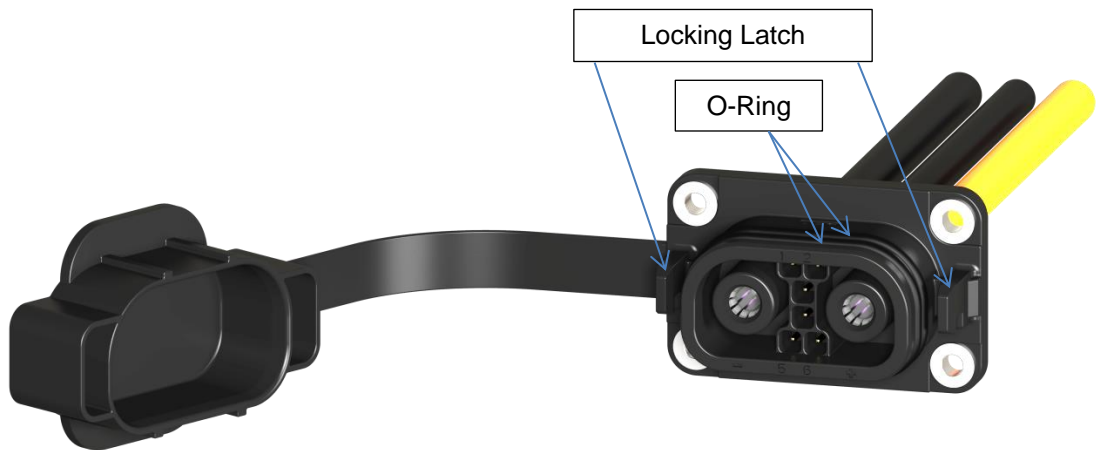

Figure 14
- 5.3.1** Apply recommended lubricant (Refer 6.1) to the O-Rings after the vehicle comes in for service at an interval of 1250 mating cycles respectively (Fig.14)
- 6.3 Prevent exertion of loads on the locking latches during assembly (Fig.14)